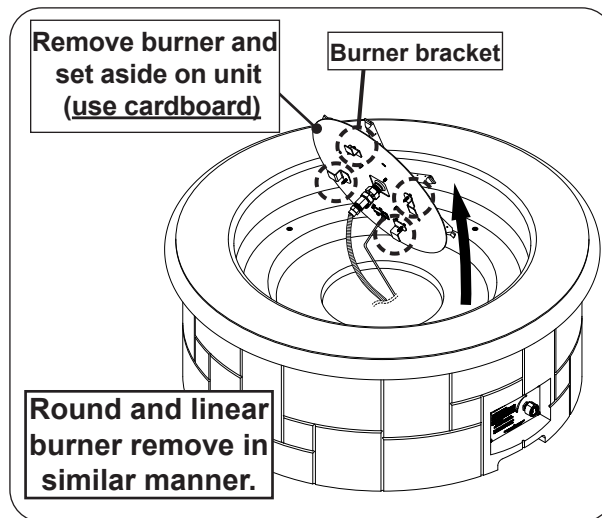

Fig. 24-2 Remove burner assembly
2. Use a $\frac{5}{16}$ " nut driver to partially unfasten the four or eight screws found on the burner assembly. Then carefully remove the burner and set it off to the side. See Fig. 24-2.